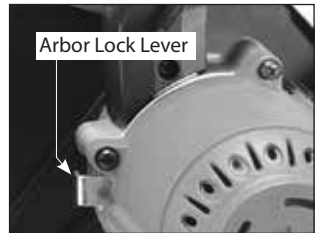

Fig.3
5. Push in the arbor lock lever and rotate the arbor by hand until the lock engages the arbor. Tighten the blade retaining bolt securely. Rock the arbor with the wrench to ensure that the arbor lock has released and release the arbor lock. see fig.3